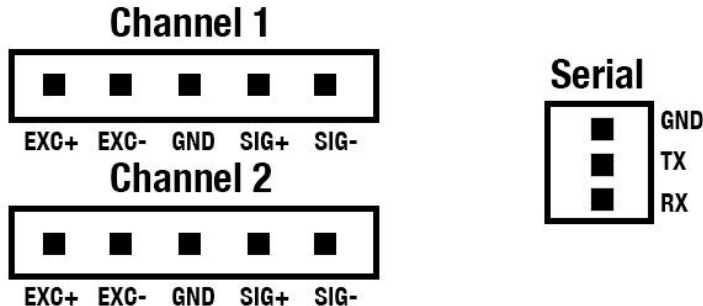

FIG 2
a. Open the back cover of the indicator and you will find two channel connectors as shown below in FIG 2. Assemble the cables with the pin assignments shown in FIG 2:
The indicator contains a standard full duplex RS-232 serial port, designed for connection to either a PC or a serial printer. Connect the serial cable as instructed in FIG 2.